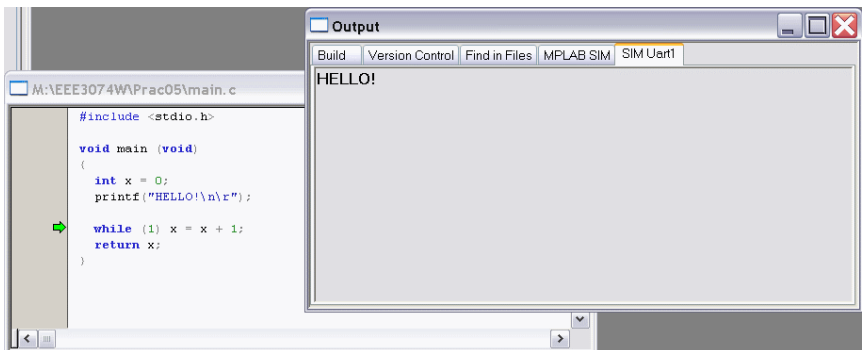

Figure 9: Running the program in the simulator.
10. Now you should be ready to run the program. Press the blue RUN button on the toolbar. As you may expect, you’ll get some simple text output as shown in Figure 9.